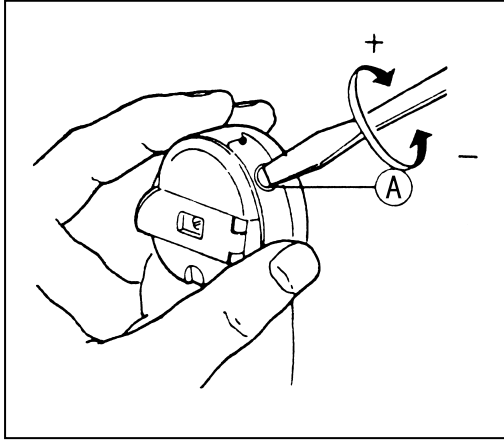

Fig. 11
12. ADJUST THREAD TENSION (Fig.11,12)